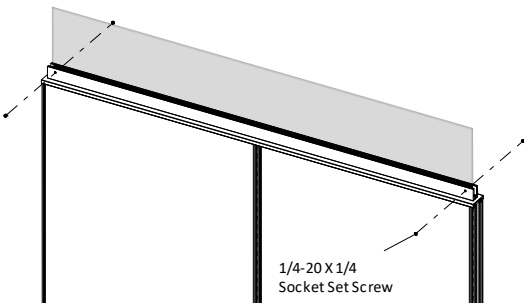

Figure 4
- Align and secure the glass/acrylic by inserting a 1/4-20 X 1/4" Socket Set Screw through each of the holes on the side of the Frameless Glazed Extrusion using an Allen Key driver, (Figure 4).